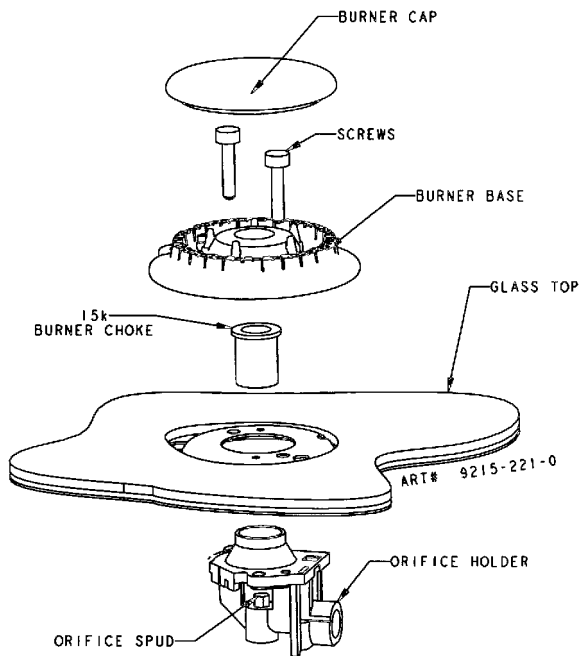

FIGURE 11
**Step 7:** Place 15k burner choke into center orifice holder. (See figure 11).